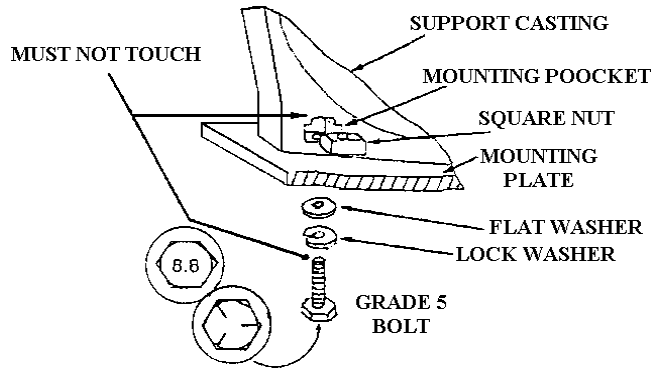

Fig. 11
3. Use only square nuts in casting (See Figure 11).
STEP (2) - Mount the winch to the mounting kit base plate or to the mount that you designed (See Figure 11).
▲ CAUTION The end of the mounting bolts must not contact the opposite side of the support castings mounting pocket (See Figure 11).
WARNING: Do not substitute any strength grade weaker than SAE Grade 5 (ISO 8.8). Grade marking is found on the bolt head and is pictured in Figure 11.